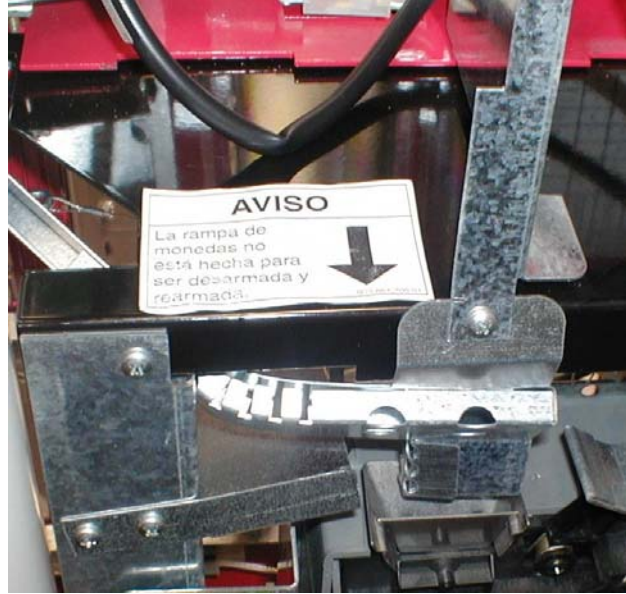

Figure 3
13. Install the Notice Label on the horizontal bulkhead as shown in figure 3.